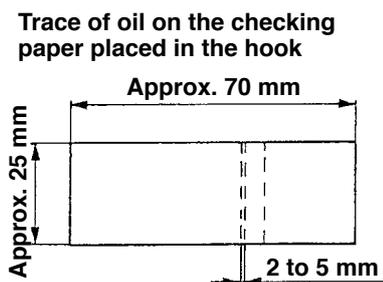

Fig. 1
1. Turn the power ON. Then, keep **M** key ① held pressed to display the adjustment screen.
2. Press button ② to select ③ "I09" operation mode.
3. Select "0" (continuous operation of the machine head only) ④ and press ENTER button ⑤.
4. Press Set Ready key ⑥ to put the machine into operation.
* Figures 1 and 2 show the appropriate amount of oil in the hook and face plate.